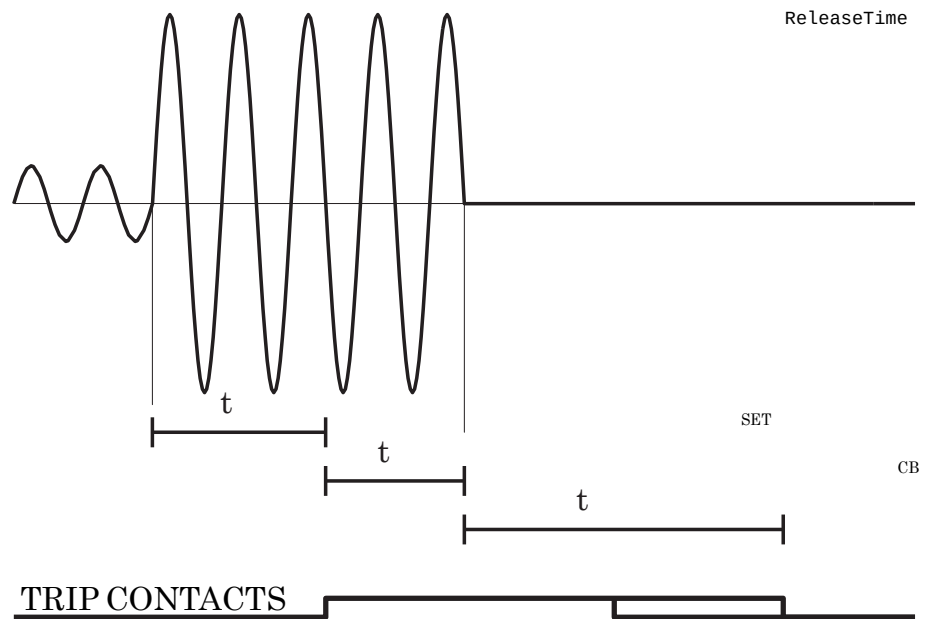

Figure 5.2: Reset time is the time it takes the trip or start relay contacts to open after the fault has been cleared.
Figure 5.2 shows an example of reset time i.e. release time, when the relay is clearing an overcurrent fault. When the relay's trip contacts are closed, the circuit breaker (CB) starts to open. After the CB contacts are open, the fault current will still flow through an arc between the opened contacts. The current is finally stopped when the arc extinguishes at the next zero crossing of the current. This is the start moment of the reset delay. After the reset delay, the trip contacts and start contact are opened unless latching is configured. The precise reset time depends on the intensity of the fault; the more intense the fault is, the slower the reset time will be. The reset time also depends on the specific protection stage.